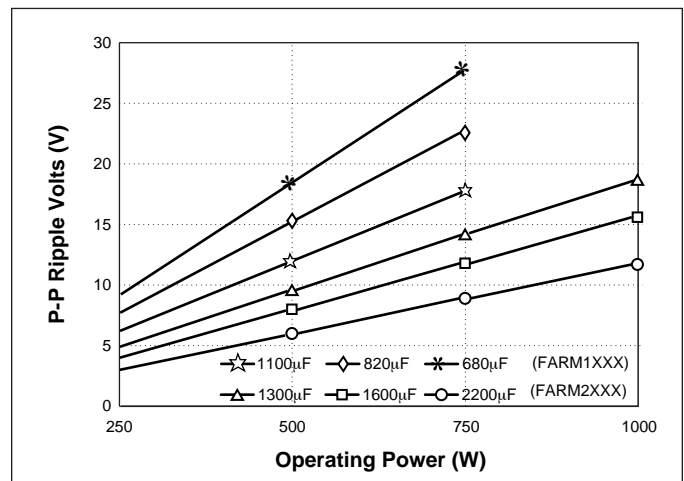

Figure 16—Ripple voltage vs. operating power and bus capacitance, series combination of  $C1, C2$  (see Fig. 9)
**Determining Ripple Voltage on the Hold-up Capacitors.** Figure 16 is used to determine ripple voltage as a function of operating power and bus capacitance, and shows that the ripple voltage across the hold-up capacitors will be 12V p-p.